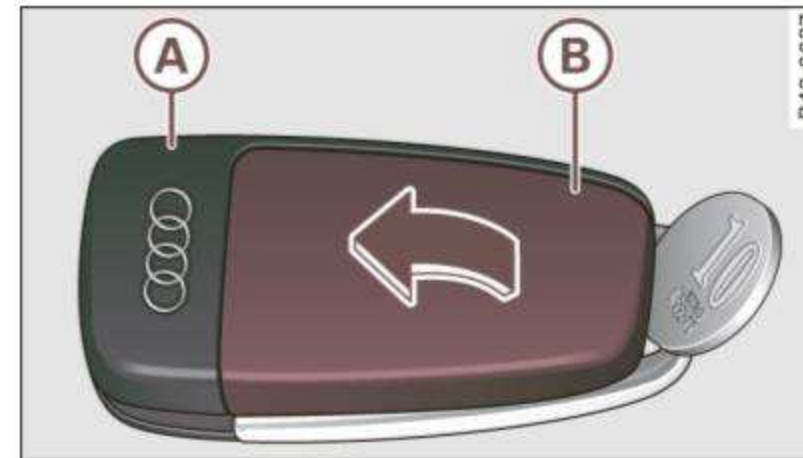

Fig. 30 Remote master key: opening the cover
- Pry apart the base ⇒ *page 43*, fig. 30 **(A)** and the cover **(B)** **carefully** with a coin.